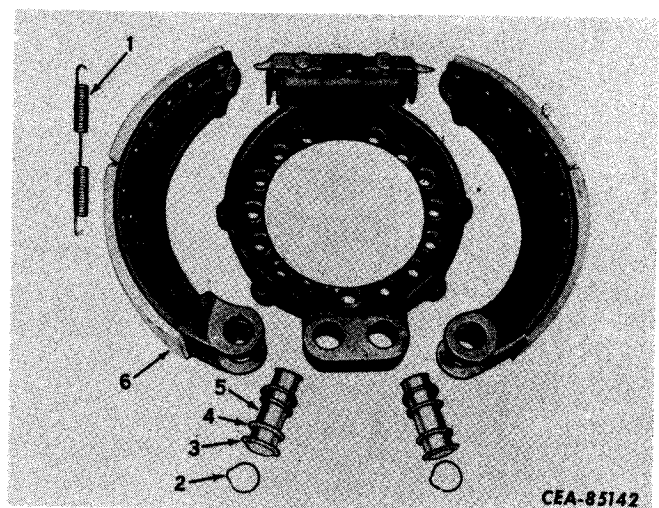

Figure 13-95
Position the brake shoe and lining assemblies (6, Fig. 13-95) on the spider. Position a felt (4) and felt retainer (3) on each anchor pin (5). Insert the anchor pins through the holes in the